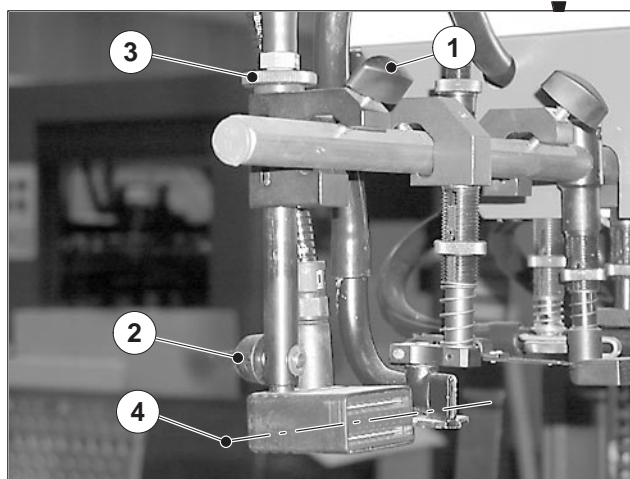

Fig. 41 Ion blower
1. Loosen the tommy bar screw (Fig. 41/1).
3. Tighten the tommy bar screw (Fig. 41/1).
4. Use the knurled ring (Fig. 41/3) to adjust the height of the ion blower. The center of the ion blower (Fig. 41/4) must be set to the level of the upper pile edge.
5. The valve on the ion blower (Fig. 41/2) enables you to adjust the blast air volume.